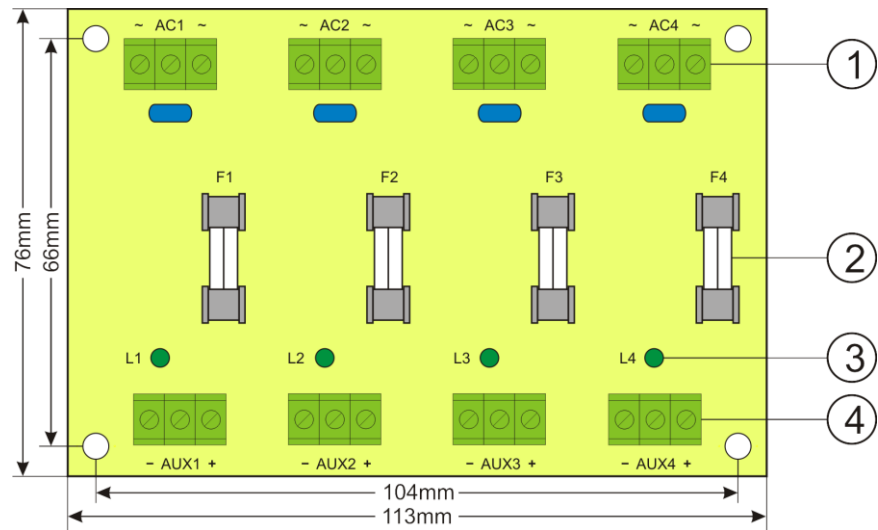

Fig. 2. The view of the LP4/SEP strip.
**1.3 Description of components and connectors of the power supply (Table.1, Fig. 2).****Table 1. Components of the LP4/SEP strip (see Fig. 2).**